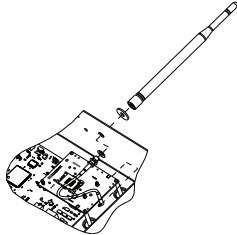

Figure 4: One antenna installation
- To attach the antenna place a nylon washer on either side of the hole on the panel and screw the cable into the antenna. See Figures 4 and 5.